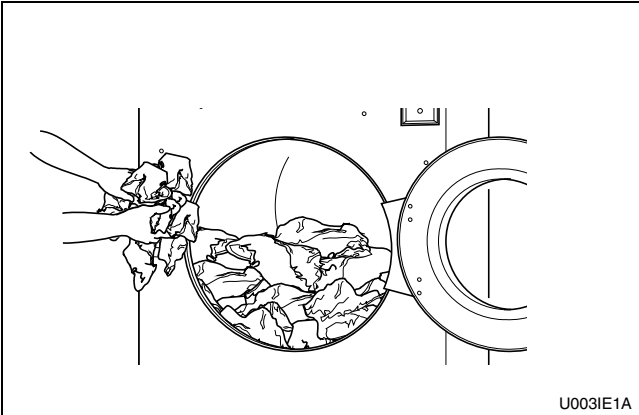

Figure 10
- 3. Load to capacity whenever possible. DO NOT OVERLOAD. Refer to *Figure 10*.